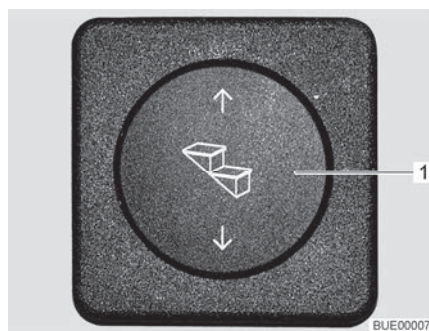

Fig. 1 Operating switch entrance step
- Press the rocker switch (Fig. 1,1) down until the entrance step has extended completely.
- Press the rocker switch (Fig. 1,1) up until the entrance step has retracted completely.